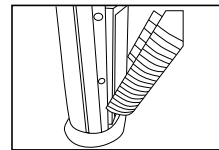

Fig. 6
3. Remove the HEPA filters from the main unit. Fig. 6